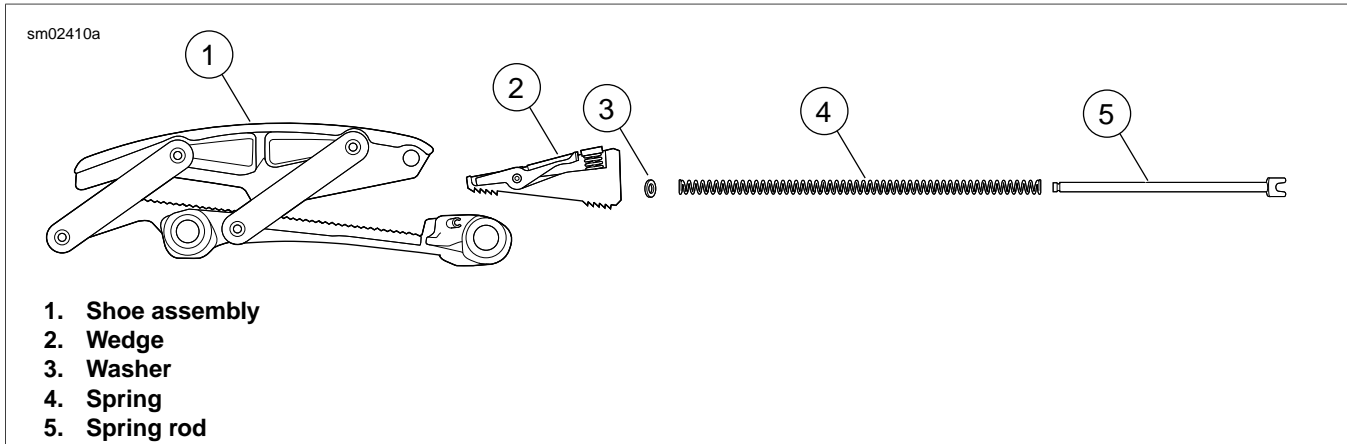

Figure 5-14. Primary Chain Tensioner Assembly
12. See Figure 5-14. Although primary chain tensioner is sold as an assembly, tensioner parts can be disassembled. If primary chain tensioner becomes disassembled, assemble in order shown.